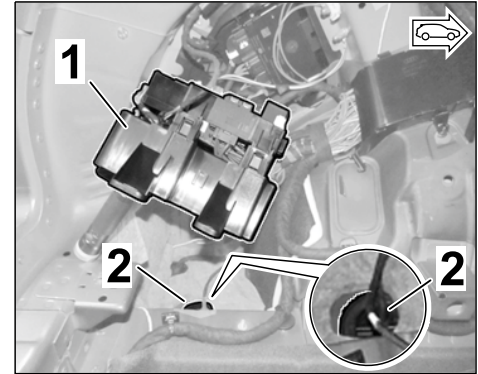

Figure 18
- 3.3.1 Loosen the fuse box with the holder in the luggage compartment, rear left, and turn it aside (\Rightarrow *Figure 18*, \Rightarrow *Workshop Manual '978409 fuse box in the luggage compartment*).